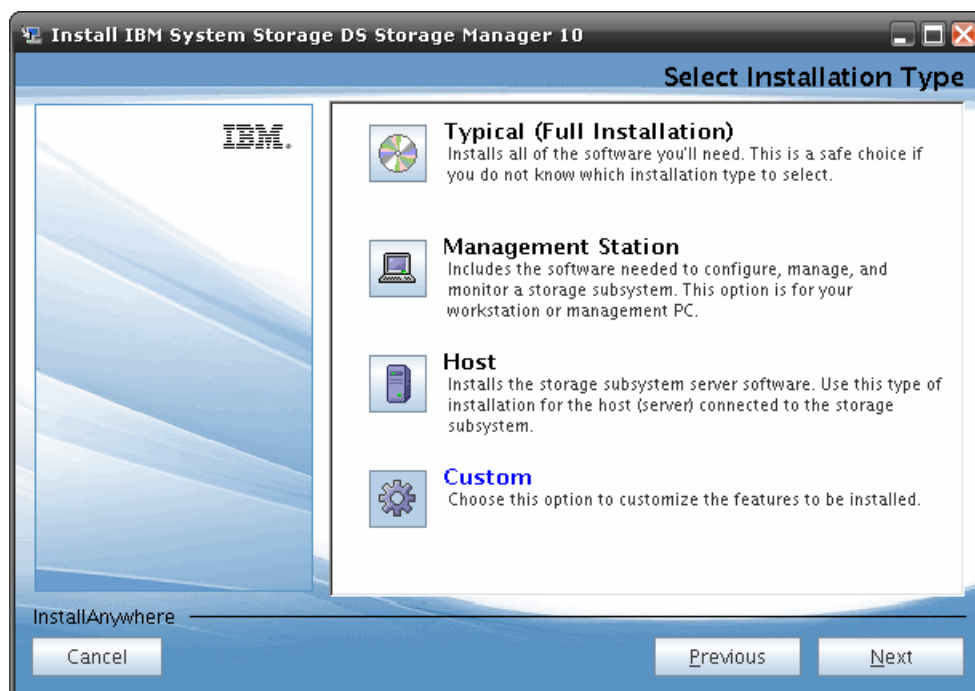

Figure 5-18 Installation type
7. Select **Custom** installation type and click **Next** as shown in Figure 5-18. We recommend the Custom installation because you can see what components of Storage Manager will be installed in each Install Set (Typical, Management Station, or Host), and you can also modify them.